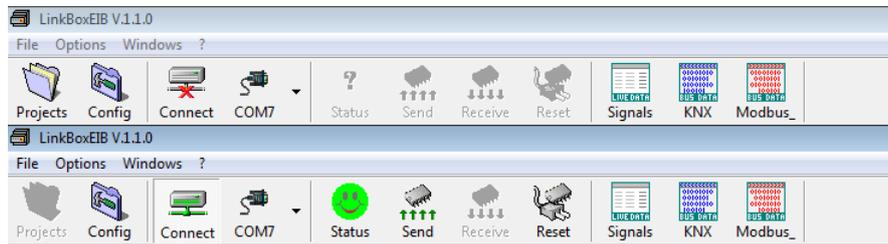

Figure 5.1 Menu and button Bar
To work with LinkBoxEIB the menu and the Button Bar (Figure 5.1) need to be used. In the following lines a brief explanation and links to the corresponding section can be found.
1. On the Button bar click on **COM1/IP** (Figure 5.1)